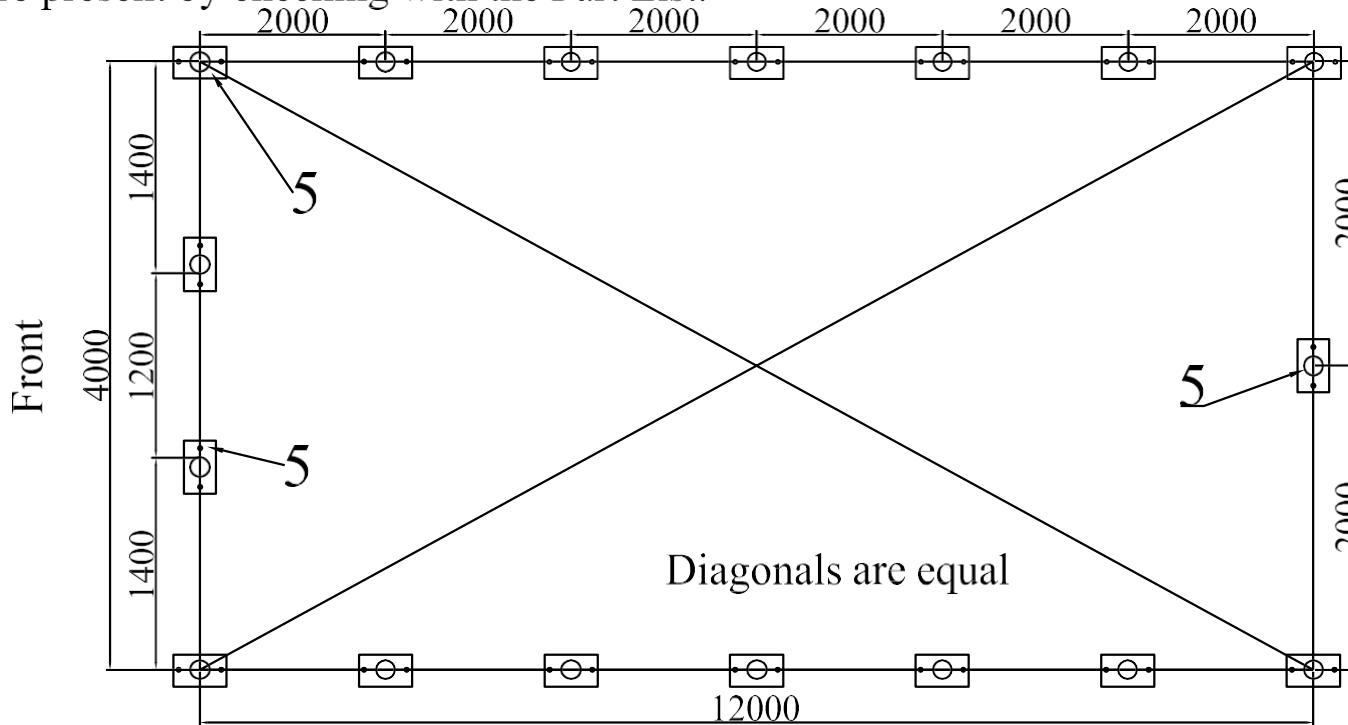

Figure 2 Position of Base Flanges
Begin by determining exact location of the four (4) corners of the building. Mark front edge and side-to-side width of assembly on ground. Drive alignment stakes into the ground outside of the markings, and draw alignment strings along both ends and sides of the building to the dimensions shown in Figure 2. The outline of the strings will represent the final location of the base flanges. The initial location of each Corner Base Flanges (5) is critical to the alignment and fit of the frame components and cover.
Locate the Left Corner Base Flange and Right Corner Base Flange (5). Secure the base flanges with Stake Pegs (Part #9). Measurements shown in Figure 2 are to the center of the upright sockets on each Base Flange.